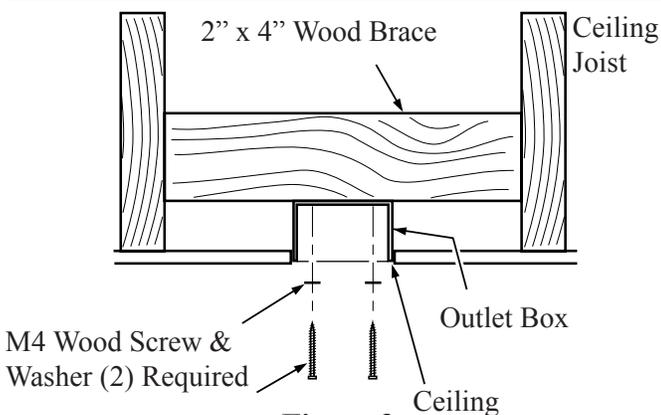

Figure 3
1. Secure a metallic outlet box 4" x 1-1/2" or 4" x 1/2" deep to a 2" x 4" cross brace between two ceiling joists as shown in Figure 3. The outlet box must be recessed in the ceiling by 1/16" minimum. Secure the outlet box to the cross brace by drilling two (2) pilot holes no larger than the minor diameter of the woodscrews (5/64") and use two #8 x 1-1/2" woodscrews and washers. Use the innermost holes for securing the box. Orient the box so the outermost holes are aligned with the 2" x 4" brace. The outermost holes will be used in Step 3 sub-step 2.